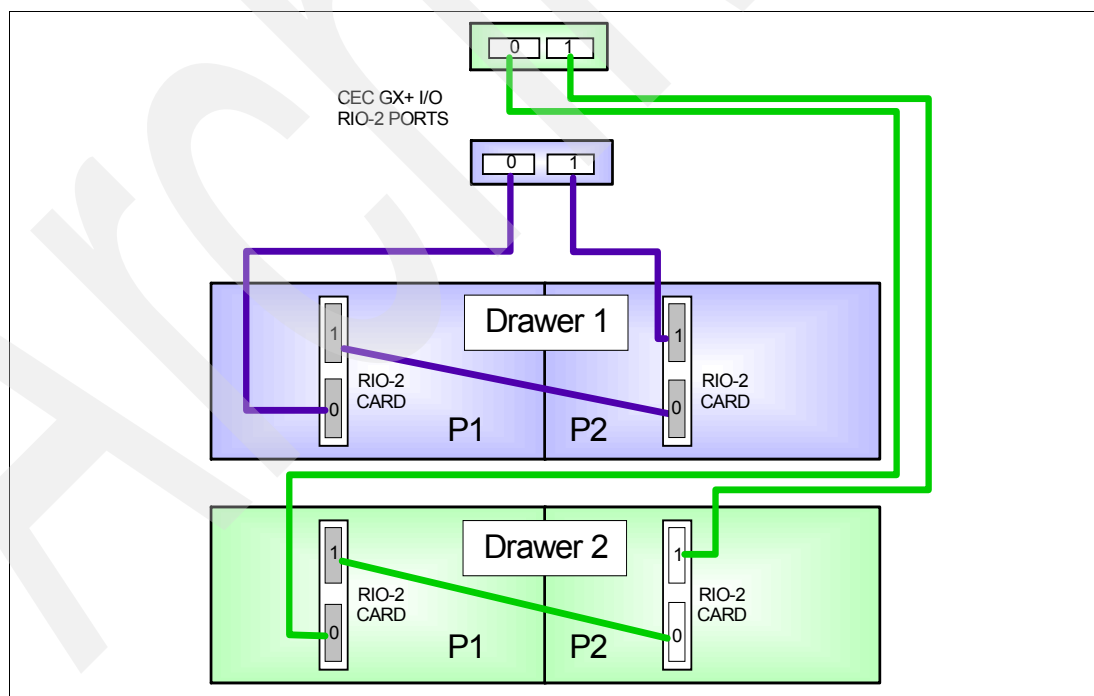

Figure 2-14 Single loop I/O drawer (FC 5791)
- ▶ Single-loop (Figure 2-14 on page 35) mode connects an entire I/O drawer to the CEC using one RIO-2 loop (2 ports). The two I/O planars in the I/O drawer are connected together using a short RIO-2 cable. Single-loop connection requires one RIO-2 Loop Attachment Adapter (FC 7818) per I/O drawer.
Single loop I/O drawer connections are shown in Figure 2-14.